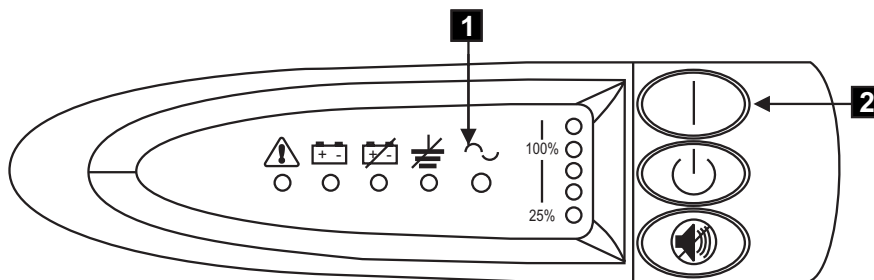

Figure 90. Power switch and indicators on the 2145 UPS
10. All front panel indicators of the 2145 UPS flash for a short time while the 2145 UPS runs a self-test. When the test is complete, the mode indicator **1** flashes to show that the 2145 UPS is in standby mode; see Figure 90.
Press and hold the 2145 UPS On button, **2** in Figure 90, until you hear the 2145 UPS beep (approximately one second). The mode indicator stops flashing and the load-level indicators display the percentage of load that is being supplied by the 2145 UPS. The 2145 UPS is now in normal mode and is charging its battery.